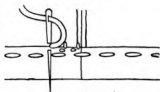

FIGURE 123
*Plain Hem* (Figure 123). — A plain hem is the folding back of the fabric on the wrong side the desired width of the hem when finished, plus seam allowances. This is the most common hem used in garments.